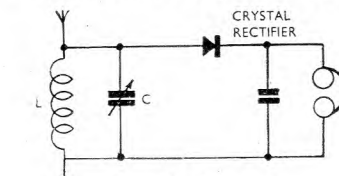

Fig. 2.
In order to obtain sharper tuning some crystal receivers employed a variable condenser and fixed inductance connected in parallel, as shown in Fig. 2. This system of tuning forms the basis of many modern receiving circuits. Forget for a moment all the intricate systems, such as ganging, and think only of the principle behind them. We find a coil (L) and a condenser (C) arranged to produce a condition of "resonance."